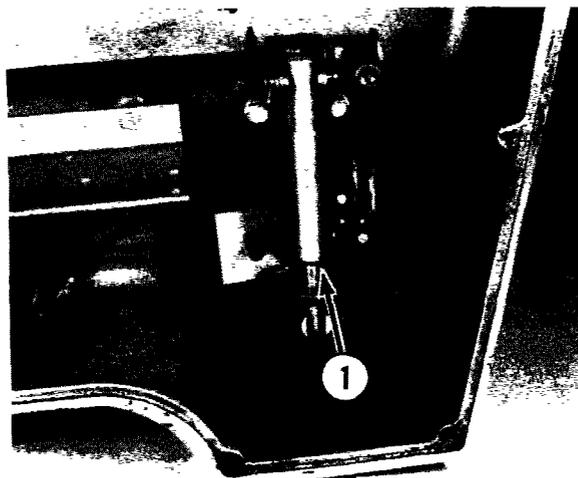

Fig. 3-12
- A. The switch should close when the switch arm is  $3/4$  of the way up the bevel (1, Fig. 3-12) of the interlock bar pin.